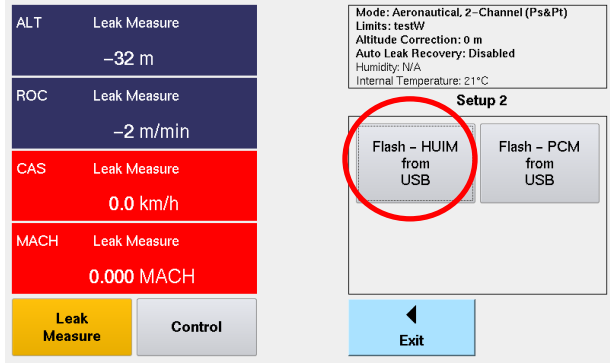

Figure 7 Firmware Update Screen
8. Select “Flash – HUIM from USB” (Fig. 7).